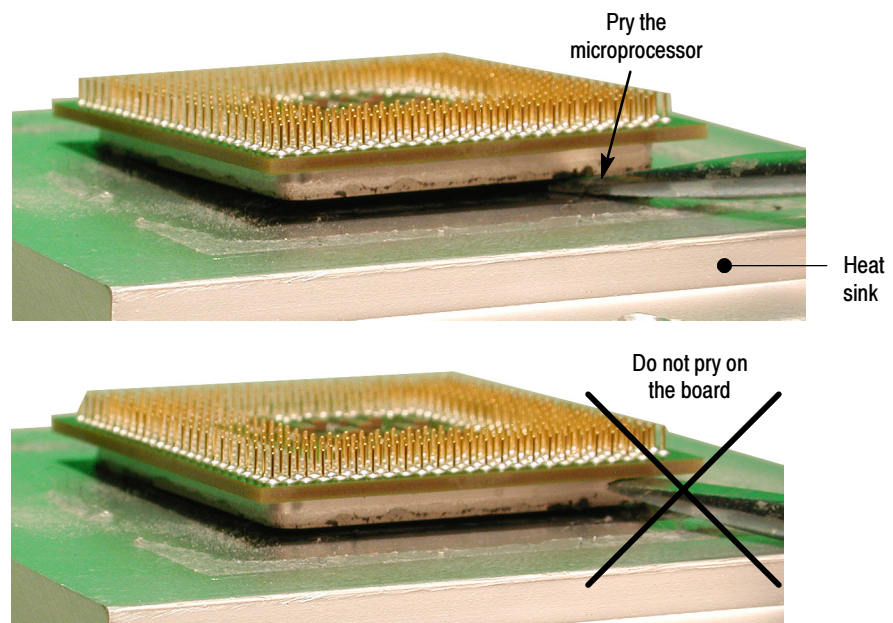

Figure 14: Removing the microprocessor from the heat sink.
- e. Refer to Figure 14 on page 25 and use a small flat-bladed screwdriver to gently pry the microprocessor from the heatsink.